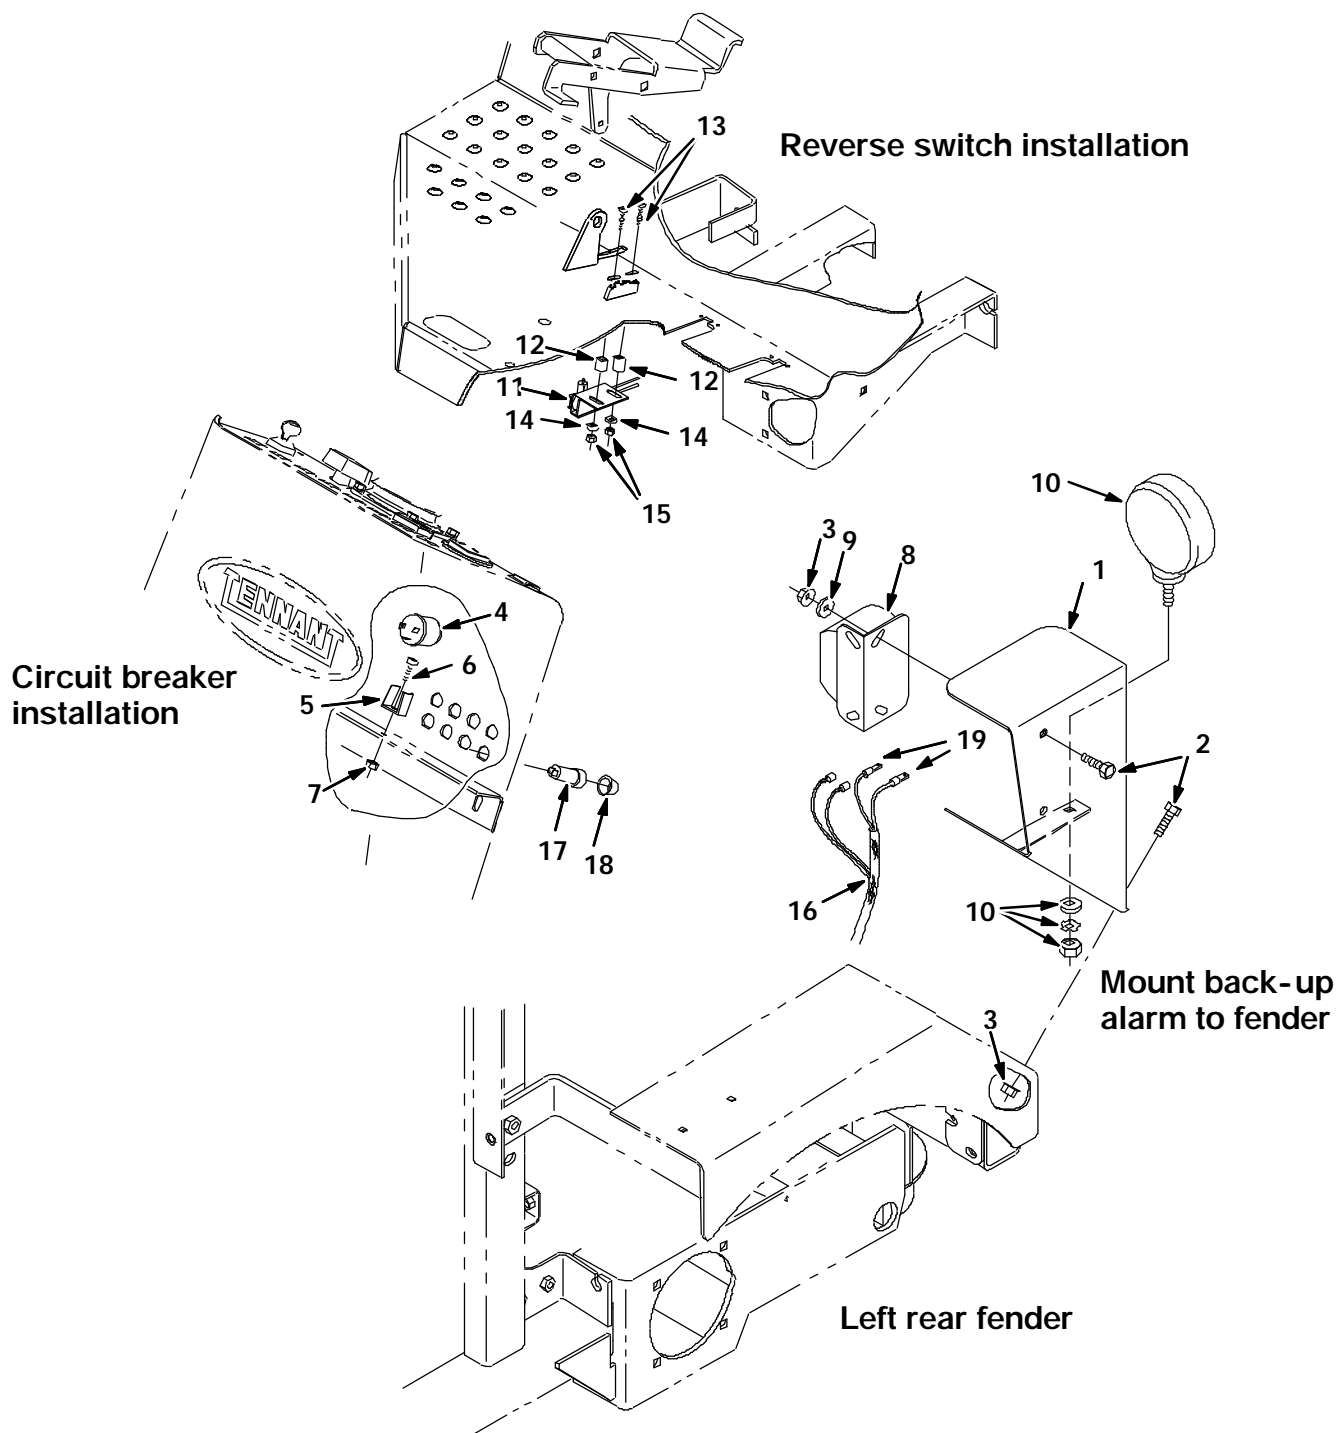

FIG. 1 - BACK UP ALARM KIT INSTALLATION
(Refer to FIG. 1 thru 5)
1. Mount roller switch assembly (11) to mounting holes under machine with sleeve tubes (12), pan screws (13), washers(14) and nuts (15). (Refer to FIG. 1 and 5)
3. Using alarm mounting bracket (1) as a template, mark two mounting hole positions in left rear fender of machine. (Refer to FIG. 1 and 4)
5. Mount alarm mounting bracket (1) on fender with hex screws (2) and flange nuts (3). (Refer to FIG. 1 and 4)
6. Mount horn to alarm mounting bracket with hex screws (2), washers (9) and flange nuts (3). (Refer to FIG. 1 and 4)
7. Mount headlight (10) to alarm mounting bracket (1) with mounting hardware (10).
(Refer to FIG. 1 and 4)
8. Connect back up alarm wiring harness (16) to horn (8), and headlight (10) with snap plug terminals (19). (Refer to FIG. 1)
9. Wire back up alarm wiring harness (16) into main wiring harness. (Refer to FIG. 1 thru 3)
11. Install flasher bracket behind circuit breaker panel with pan head screw (6) and lock nut (7). (Refer to FIG. 1)
12. Install circuit breaker and circuit breaker boot in circuit breaker panel. (Refer to FIG. 1 and 2)